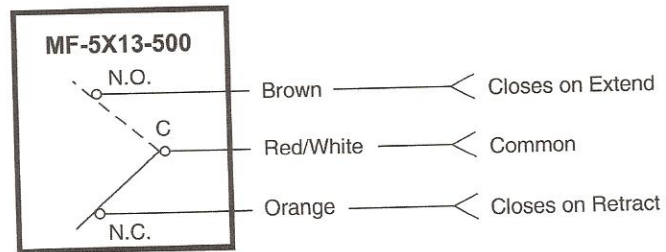

Figure-3 Auxiliary Switch for MF-5X13-500 Models.
The auxiliary (aux) switch can be adjusted by turning the aux. switch screw to change the switch action through the stroke of the unit (refer to Figure-3). The factory setting has the N.C. contact made at the retracted position.
3. Make the required connections. Refer to Figure-1 for a wiring diagram of a typical application. Refer to Figure-2 for a wiring diagram of the 18K feedback potentiometer for the MF-55X3 model series actuators. Refer to Figure-3 for a wiring diagram of the auxiliary switch for MF-5X13-500 model actuators.